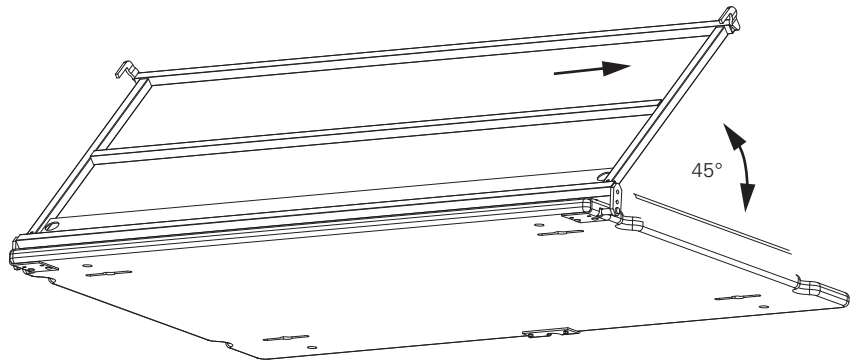

Fig. A3.06
1. Place the Handrail Frame in a 45° position, loosen Locking Bolt (19) (SW 19), and push frame to the right as seen from the platform. (Fig. A3.06)